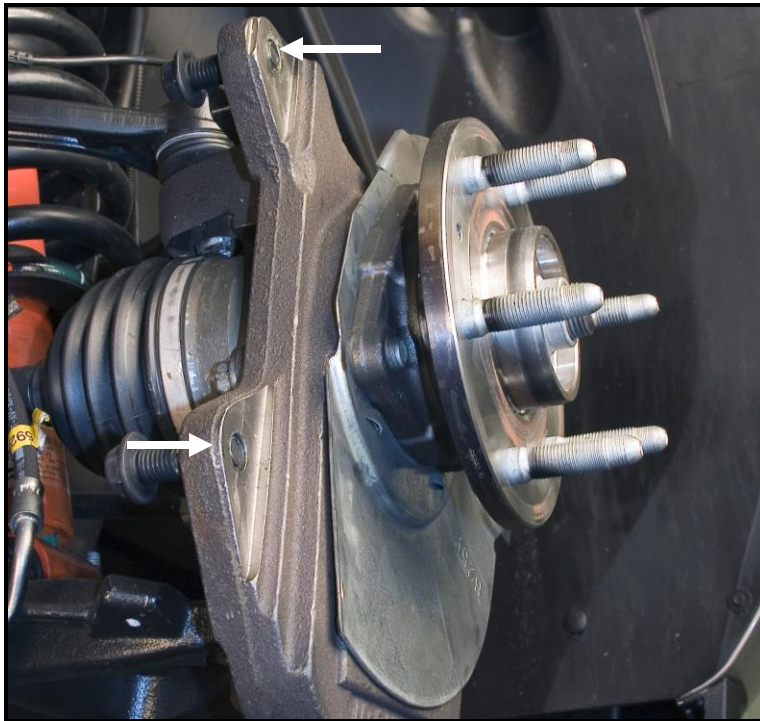

Figure 1: Spindle areas to grind
3. Remove the rotor from the hub and clean both the hub and caliper mounting surfaces to ensure a proper fit for all of the new components. Some areas of the spindle may require grinding for bracket clearance. The debris shield must remain in place. See Figure 1 for reference.
****Note:** The image in Figure 1 is an aftermarket drop spindle.